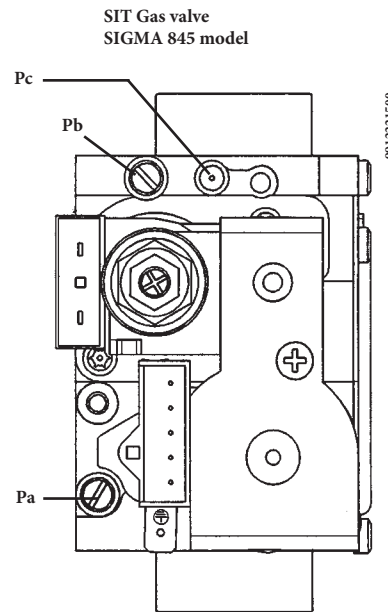
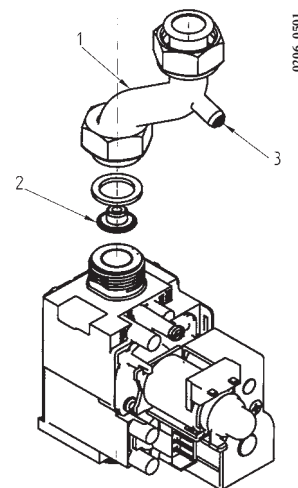

Figure 13a
Figure 13b (model 240i - 240 Fi)
- remove the gas supply pipe (1 in Figure 13b);
- change the diaphragm nozzle fitted on the gas valve (2);
- connect the positive pressure test point of a differential pressure gauge (possibly water-operated) to the gas valve pressure test point (**Pb**) (Figure 13a). For models 240 i/Fi use the pressure tap (3) in the gas supply pipe (figure 13b). Only for models with sealed chambers, connect the negative pressure test point of the pressure gauge to a „T” fitting in order to join the boiler adjustment outlet, the gas valve adjustment outlet (**Pc**) and the pressure gauge. (The same measurement can be made by connecting the pressure gauge to the pressure test point (**Pb**) after removing the front panel of the sealed chamber). Measuring burner pressure using methods other than those described could lead to incorrect results as the low pressure created by the fan in the sealed chamber would not be taken into account.
- make sure that the dynamic inlet pressure of the boiler, measured at the gas valve pressure test point (**Pa**) (Figure 13a) is correct (30 mbar for butane gas, 37 mbar for propane gas or 20 mbar for methane gas ).